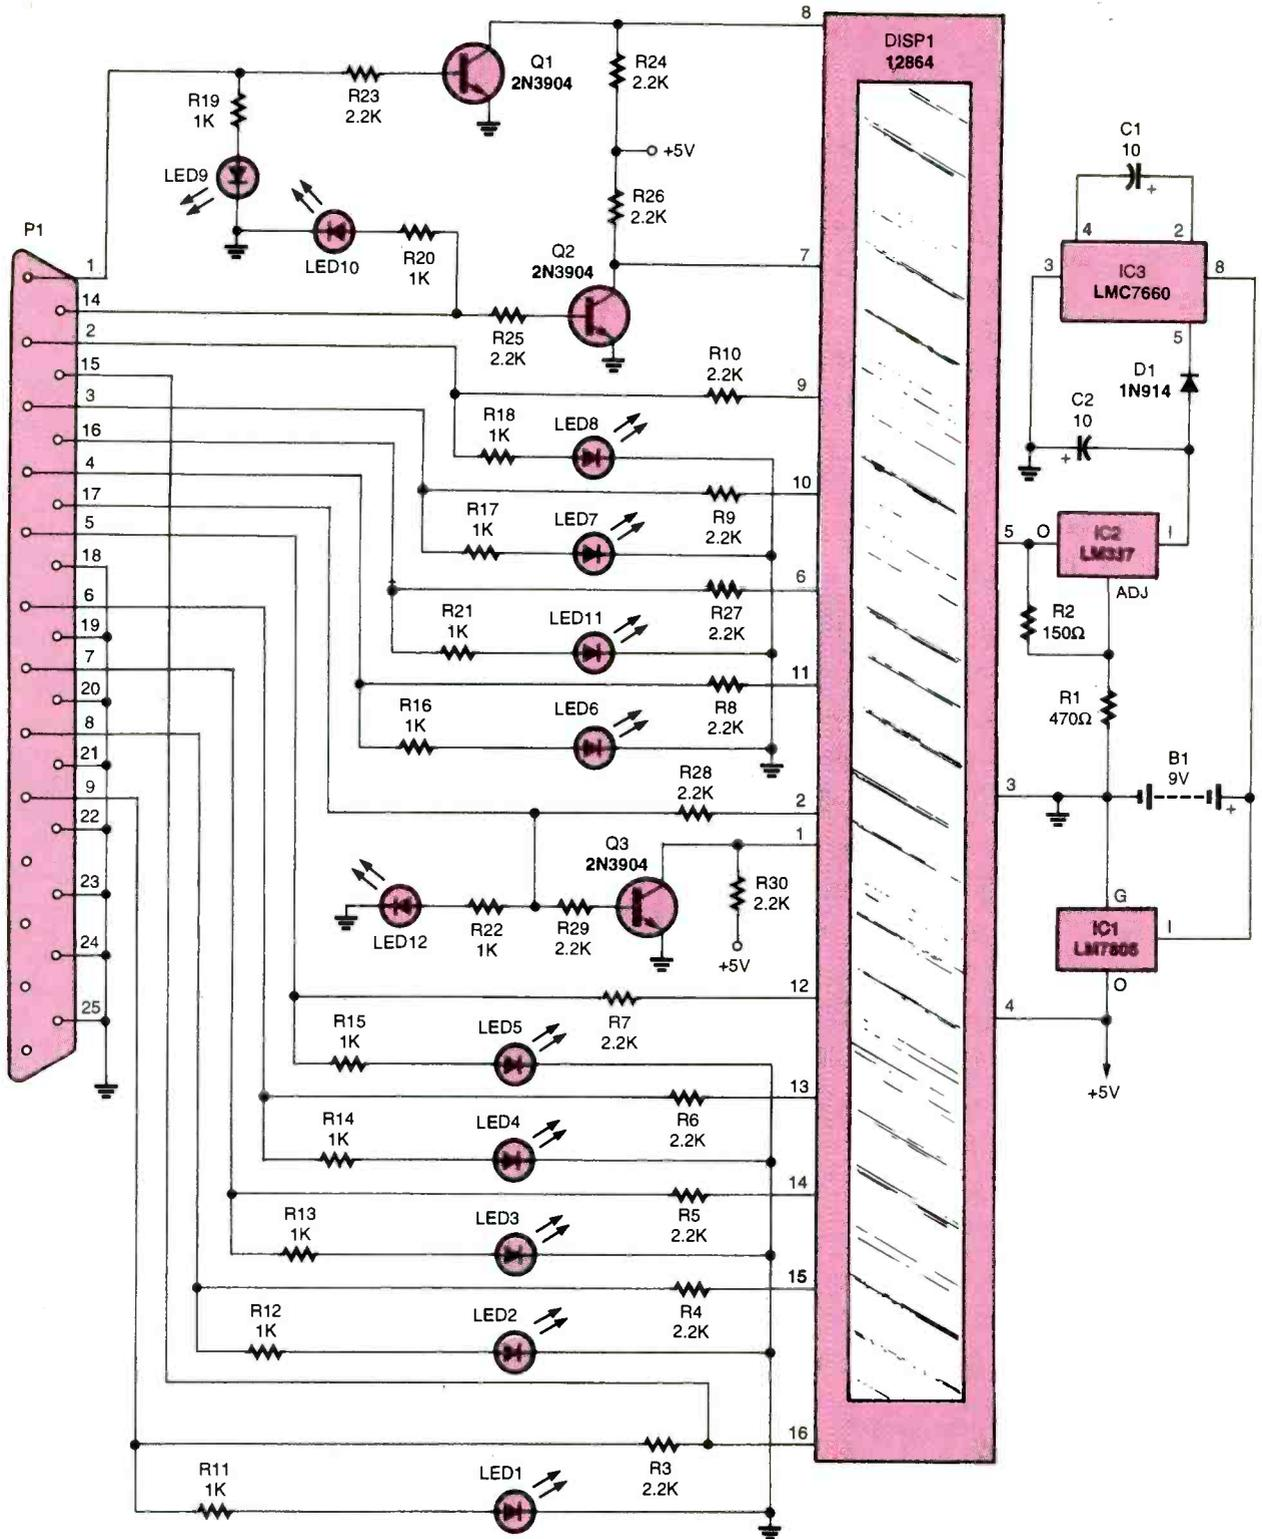

Fig. 1. Connecting a graphic liquid-crystal display to a printer port is easy thanks to the use of sophisticated display-controller chips on the LCD module.
**About the Circuit.** A complete schematic diagram for the LCD/Printer Port Interface circuit is shown in Fig 1. A quick comparison between this circuit and the one given for the text-based module shows that they are very similar. The main differences center on the power supply and the printer-port interface.